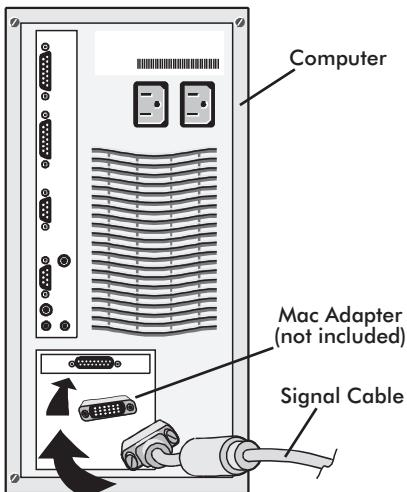
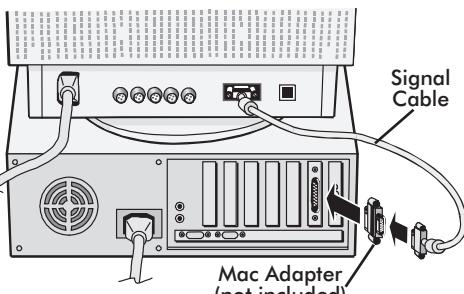

Figure B.1
Figure B.2
- For the Mac:** Connect the Macintosh cable adapter (not included) to the computer (Figure B.1). Attach one end of the 15-pin mini D-SUB signal cable to the Macintosh cable adapter (not included) (Figure B.1) and the other end to the back of the monitor (Figure B.2). Tighten all screws.